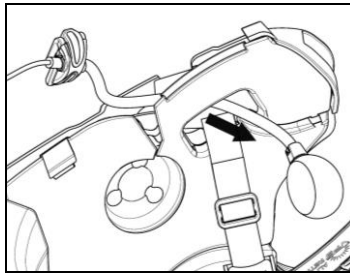
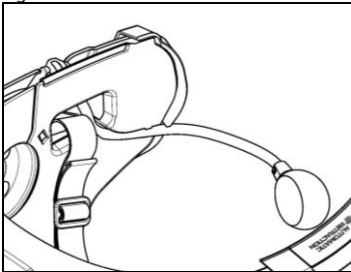

Fig. 11
Fig. 12
- Insert the microphone into the eyelet (Fig. 11) and position it in the special housing, then inserting the boom pole of the microphone in the groove found in the chin guard coupling frame (Fig. 12).